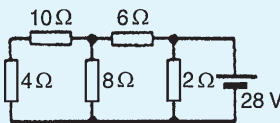

Figure 13.51
- In the network shown in Fig. 13.51, the battery has negligible internal resistance. Find, using Thévenin's theorem, the current flowing in the  $4\ \Omega$  resistor.